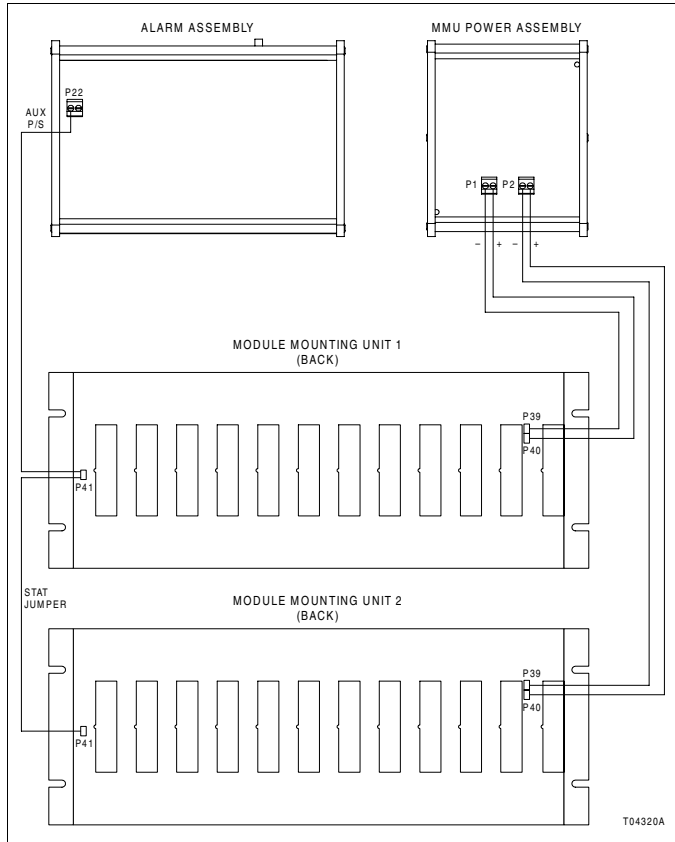

Figure PR10-1. MMU Power and Status Wiring
- 3. Connect the wires according to Table PR10-1 and Figure PR10-1.
- 5. Connect the status wire from P22 (AUX P/S) on the alarm assembly to P41 (STAT) on the back of the module mounting unit (Fig. PR10-1).